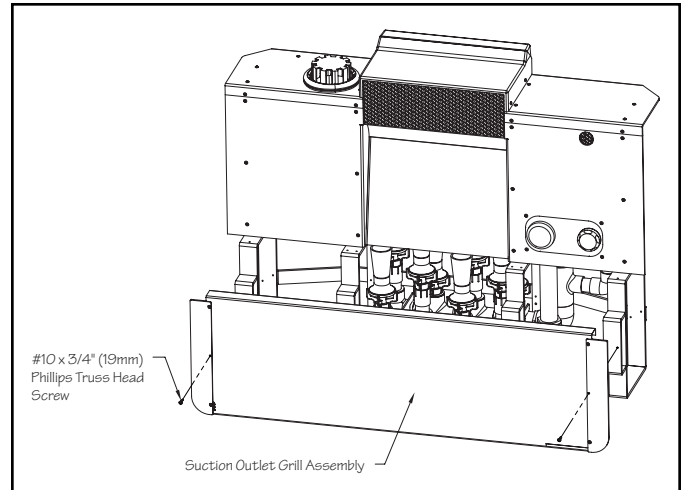

Fig. 108
4. Remove the #10 x 3/4" (19mm) Phillips Truss Head Screws securing the suction outlet grill to the housing and remove the suction outlet grill. Fig. 108.